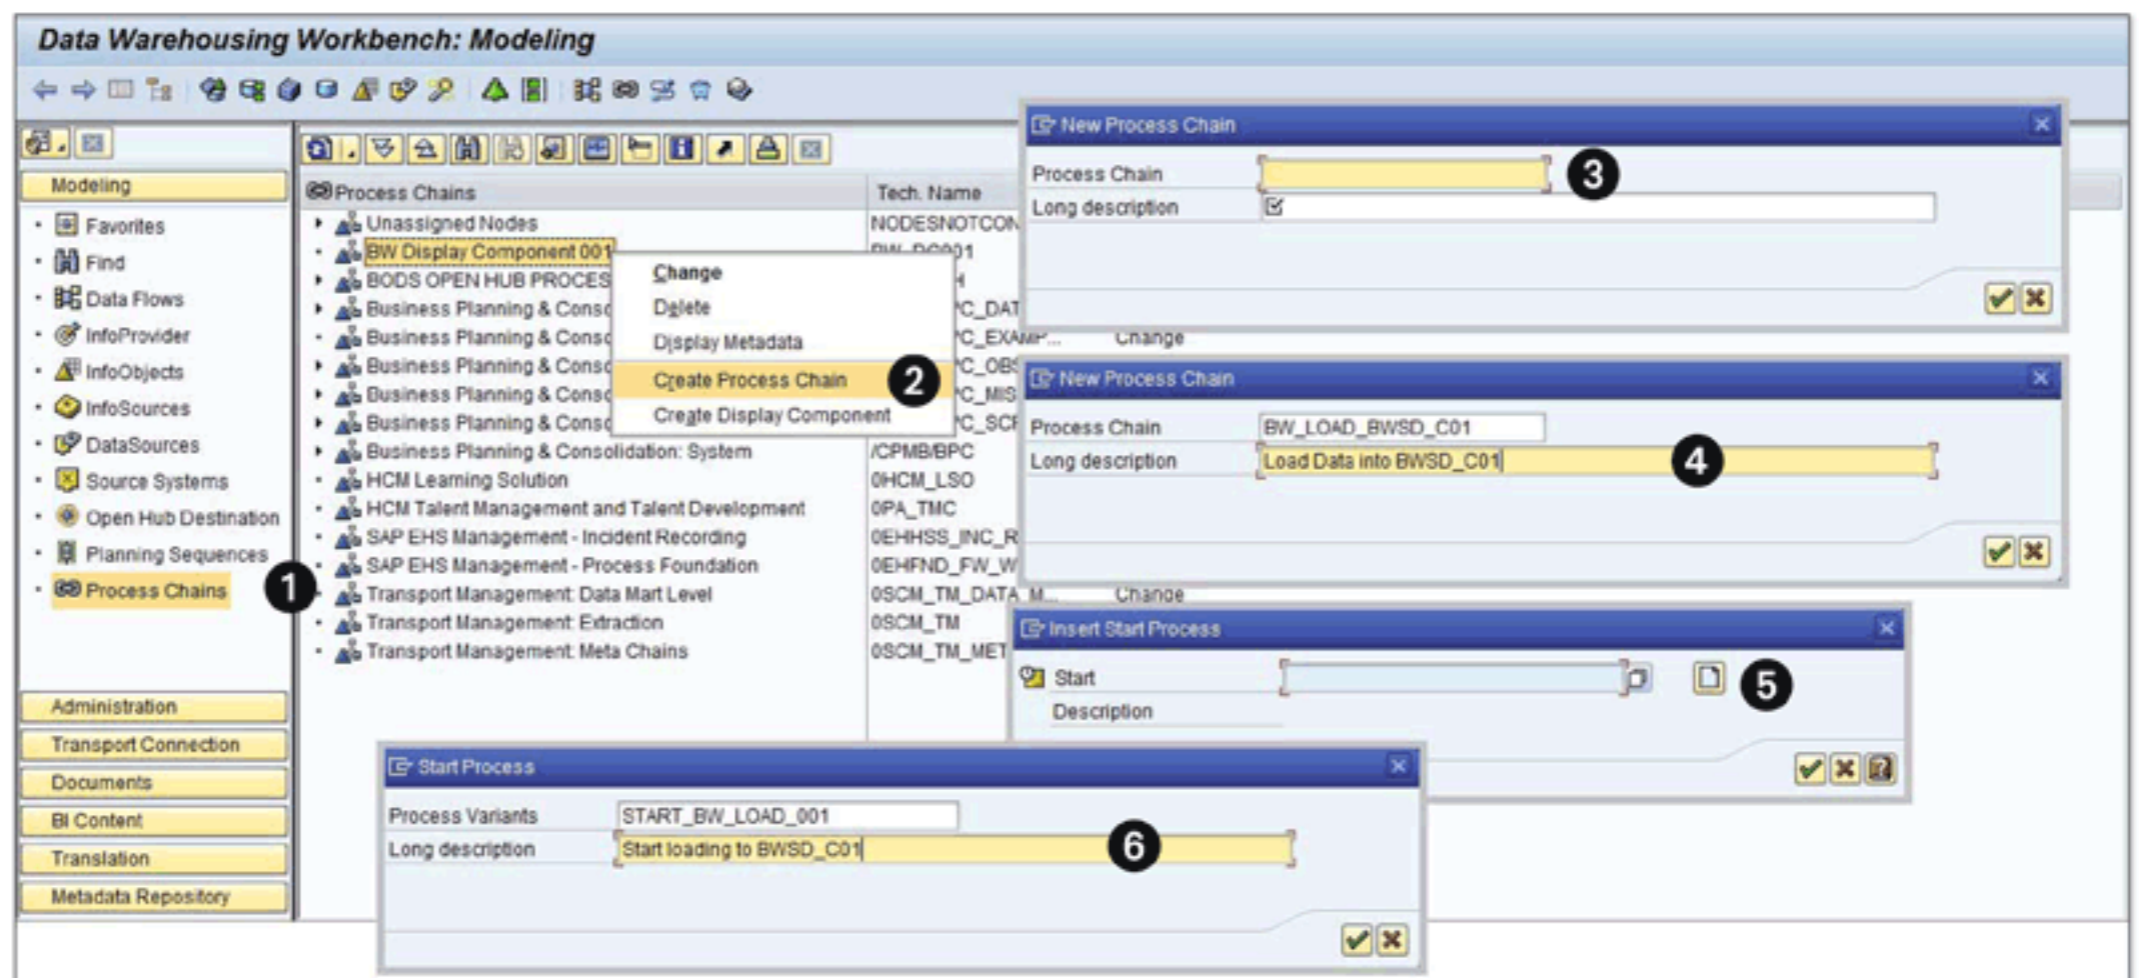

Figure 14.30 Process Chain: Create Start Variant
Click on CONTINUE to confirm the inputs, and the system automatically opens a pop-up box for inserting a start process (❺ of Figure 14.30). Click on the CREATE icon and enter the following (❻ of 14.30):